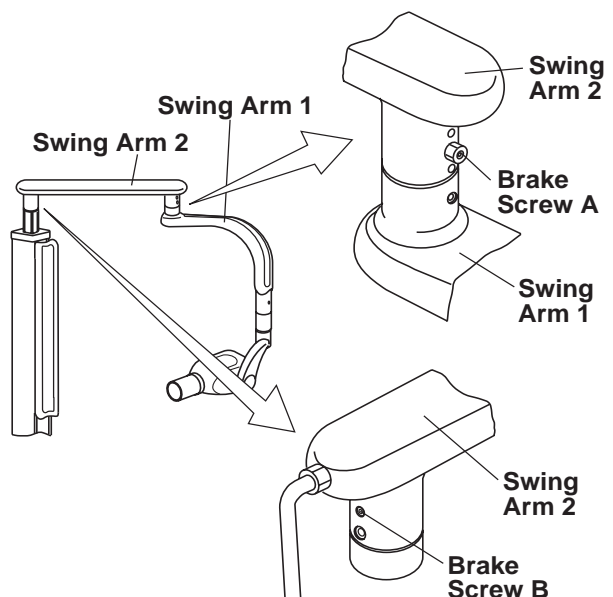

Fig.4-7 Swing Arm Friction Adjustment for RK
B. SWING ARM FRICTION ADJUSTMENT FOR RK TYPE (Fig.4-7)